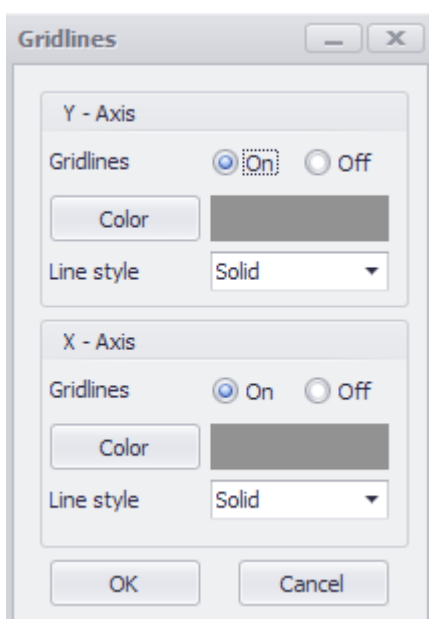

Fig. 22. Changing wall specifications.
3. The walls in a 3D diagram may be changed by selecting **Format Walls** from the Format menu. You can change gridlines, color, axis, etc, see **Fig. 22**.